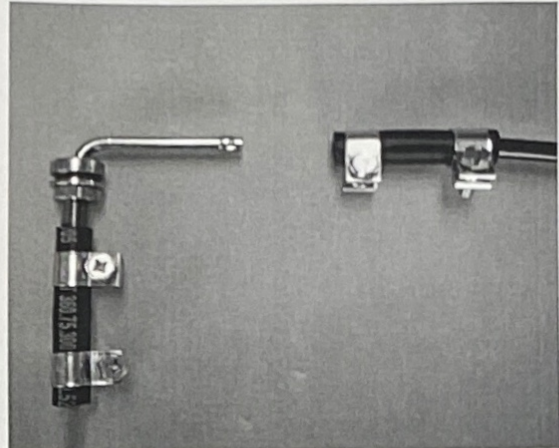

Figure 1
3. Using the 9mm stainless steel clips (11051) secure the 2 mm I.D. blue pipe (890 31 054) to the standpipe using rubber connection (360 75 300). *Figure 1.*